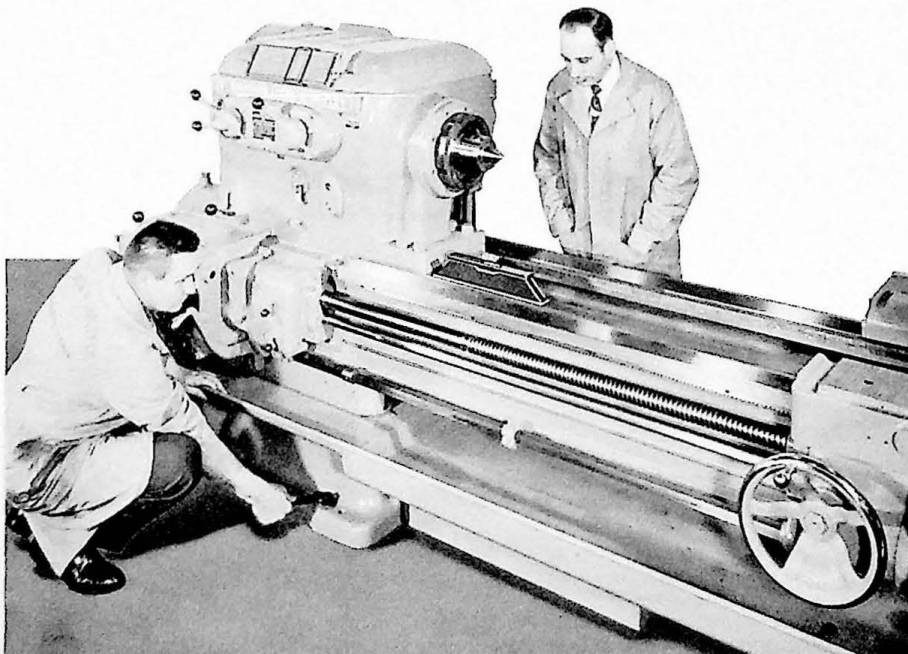
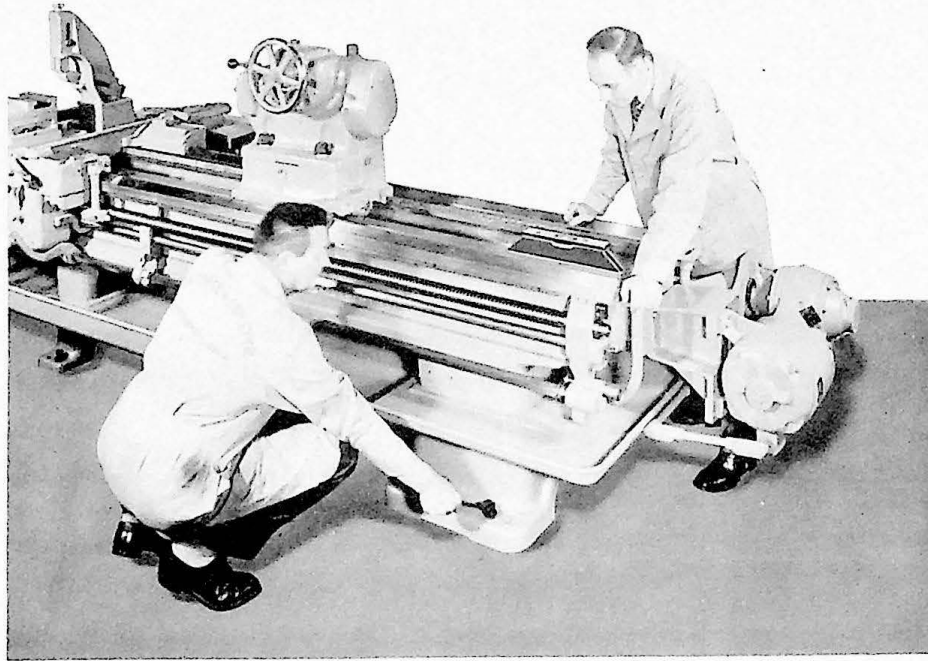

Figure 6
Figure 7
- (1) Place the level lengthwise on the tailstock flat way at either the headstock end or the tailstock end, depending on the position of the carriage (similar to Figure 6 or 7). Level the lathe longitudinally.
Place the level lengthwise on the tailstock flat way of the bed up close to the headstock (See Figure 6) and adjust the screws under the headstock end leg until the reading is "Zero". At the same time check with the level across the bedways to make sure these adjustments do not cause a twist in the bed. Then place the level lengthwise on the tailstock flat way of the bed at the tailstock end (See Figure 7), and repeat the above operation, again checking with the level across the bedways. Repeat these operations and make whatever minor adjustments are required. On those machines equipped with center legs, this operation should also be performed with the level lengthwise on the tailstock flat way of the bed directly over each center leg.